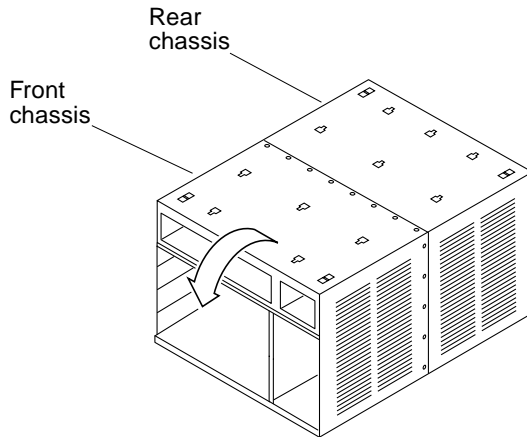

FIGURE E-24 Orientation of Empty System Chassis
10. Place the empty system chassis front side down (FIGURE E-24).